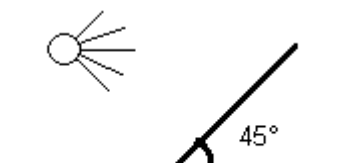

Figure 11: Tilt angle for solar panel (here 45°)
- Angle: The optimum tilt angle (angle between the horizontal plane and the solar panel, (see **Figure 11: Tilt angle for solar panel (here 45°)**)